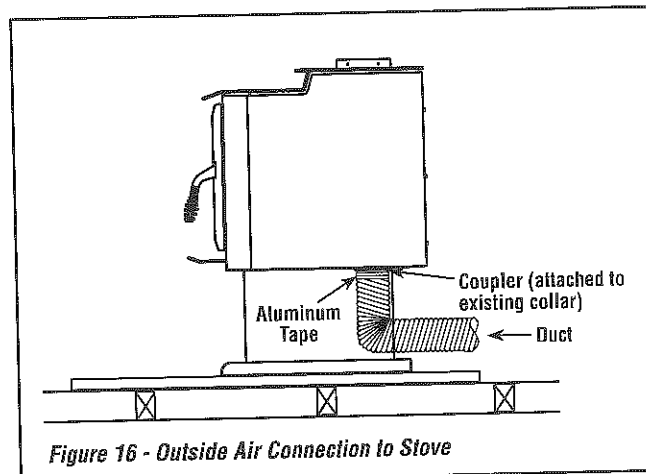

Figure 16 - Outside Air Connection to Stove
- Attach the duct to the coupler on stove (see Figure 16). Using the aluminium tape provided, wrap the tape around the joint between the flexible duct and the air inlet.